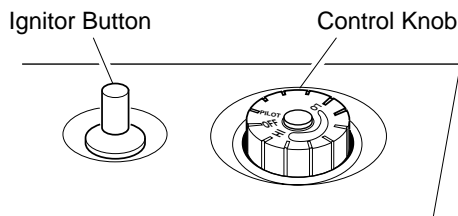

Figure 15 - Control Knob In The OFF Position
4. Wait five (5) minutes to clear out any gas. Then smell for gas, including near the floor. If you smell gas, **STOP!** Follow "B" in the safety information in column 1. If you don't smell gas, go to the next step.
5. Turn control knob counterclockwise to the PILOT position. Press in control knob for five (5) seconds (see Figure 15).